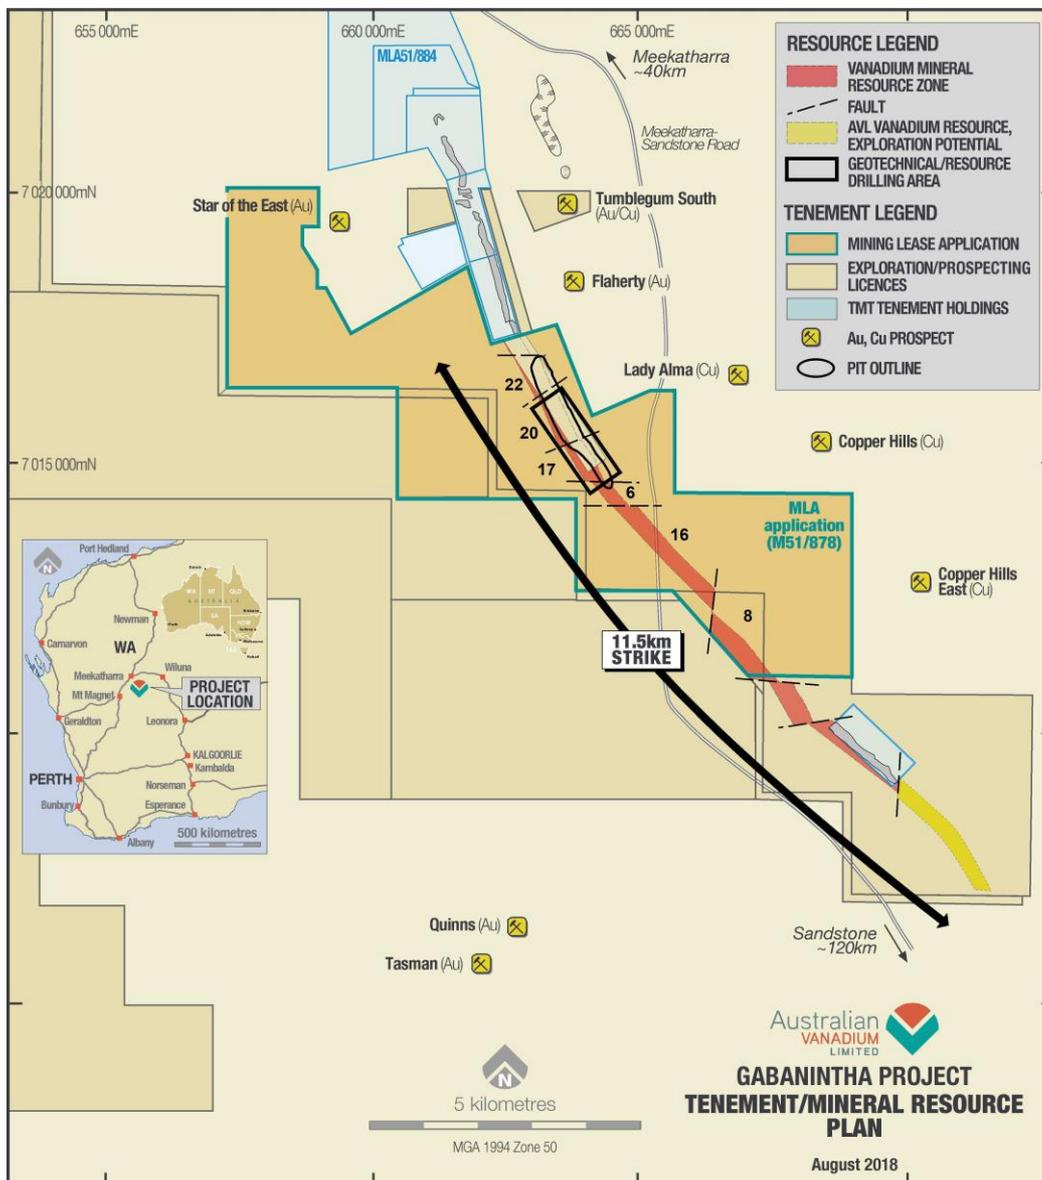
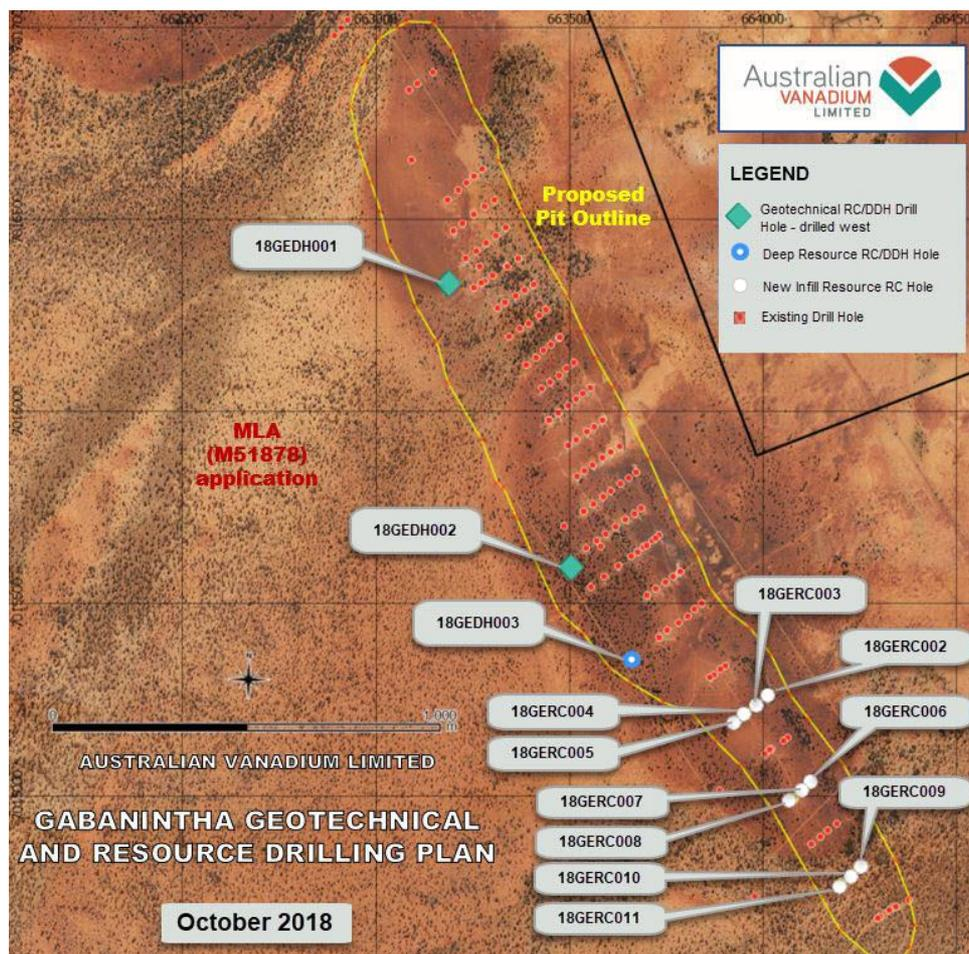

Figure 1 Location Diagram of Gabanintha Project. Fault block numbers labelled in black within MLA
Figure 2 Drill Program Collar Plan
Results from the drilling are being used to improve the geotechnical parameters being used to update the Company’s PFS (see ASX announcement *Gabanintha Presents Robust Base Case for PFS* dated 26th September 2018). Geological logging and assay results from the RC component of the program are being used to update and upgrade the Inferred Mineral Resource in Fault Block 17, (see Figure 1). Block 17’s Inferred resources are currently included in the PFS base case mining schedule. Drilling Results in the Block 17 drilling are summarised in Table 1 below. Further details are supplied in Appendix 2 – JORC Table 1. A drill location plan, long section and cross sections are shown in Figures 2, 3 and 4 respectively.
The RC component of the September 2018 drill program was designed to provide data at a frequency appropriate to upgrade the resource category of material in the proposed open pit in Block 17 to an Indicated Mineral Resource status, (see Figure 1).
The new drill program provides valuable information to the ongoing PFS, focusing on geotechnical data (see Figures 1 and 2).
- Evaluation of western pit slope angles by conducting diamond drilling (18GEDH001, 18GEDH002) into the proposed western pit wall (see Figure 2)
- Opportunity to increase Indicated Mineral Resources by increasing the frequency of drill data in the current Inferred Mineral Resources to the south of the existing 2.4km zone of Measured and Indicated Mineral Resources (see Figures 1, 2 and 3)